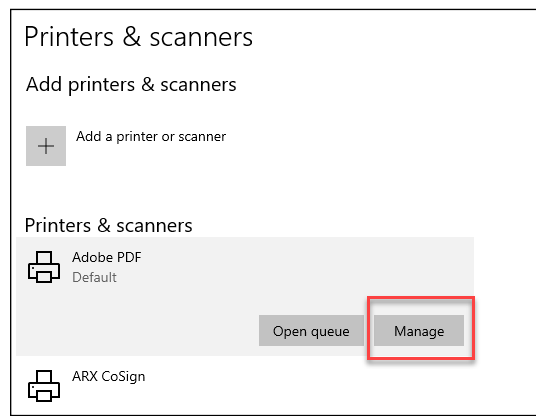

Figure 8
- Select "Adobe PDF" or equivalent PDF printer (Figure 8).
- Select "Manage" (Figure 8).